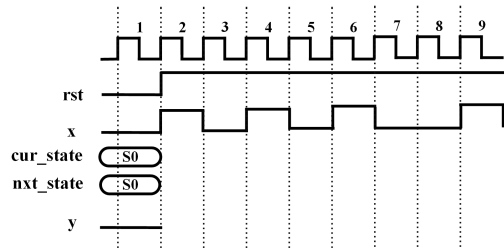

FIGURE 7.33
- 4) Analyze the simulation results using the input stimulus shown in Figure 7.33. The input signals “x” and the asynchronous reset “rst” are provided. Draw the current state “cur_state” and the next state “nxt_state”, as well as the output “y”.
- 2) Create a testbench to simulate the design, following the input stimulus depicted in Figure 7.33. Compare the simulation outcomes from ModelSim with the analysis results from Problem 7.1.